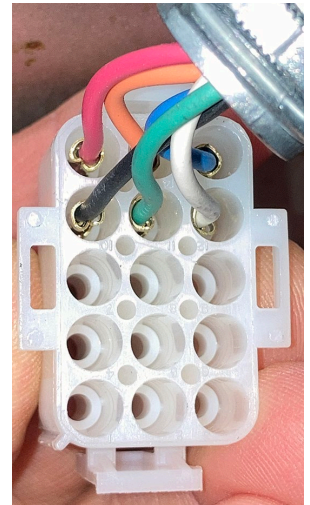

Figure 9
11. Take a photo of the wire locations in the basket lift harness in step 8, noting their pin positions (see Figure 9).